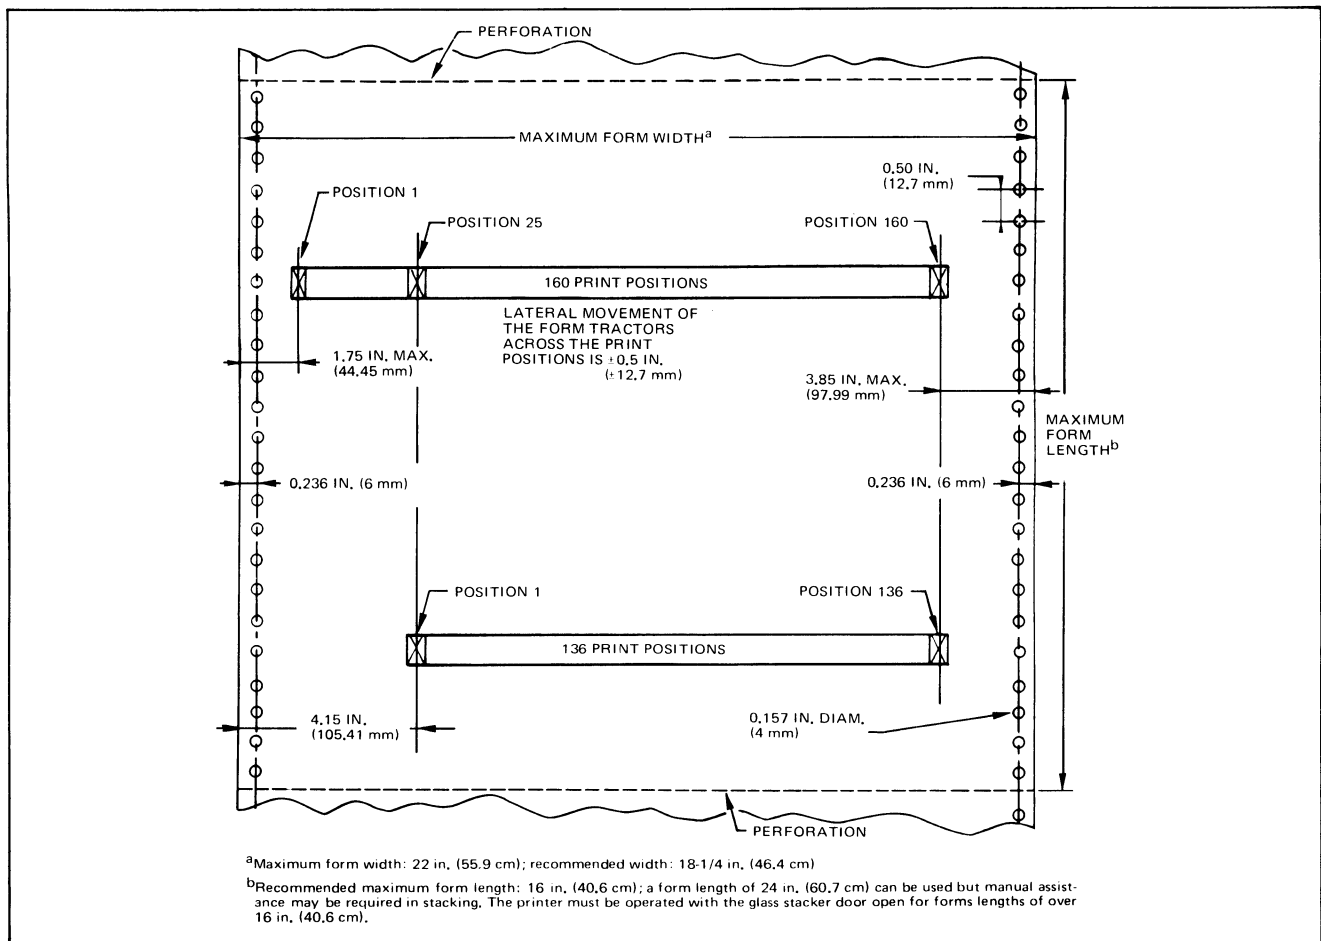

Figure A-1. Maximum Form Width
- Maximum width: 22 in. (55.9 cm); width over 18-1/4 in. (46.4 cm) should be checked to ensure desired print positions are within the lateral movement of the tractors. (See Figure A-1.)